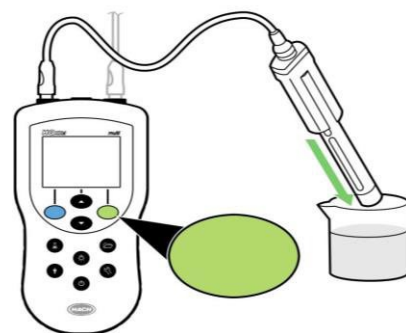

Figure 10: Press the green button to record a reading
- o Press the green button below **Read** on the screen and wait for probes to stabilize (Figure 10) You will hear a beep when stabilization is complete and readings have locked in.